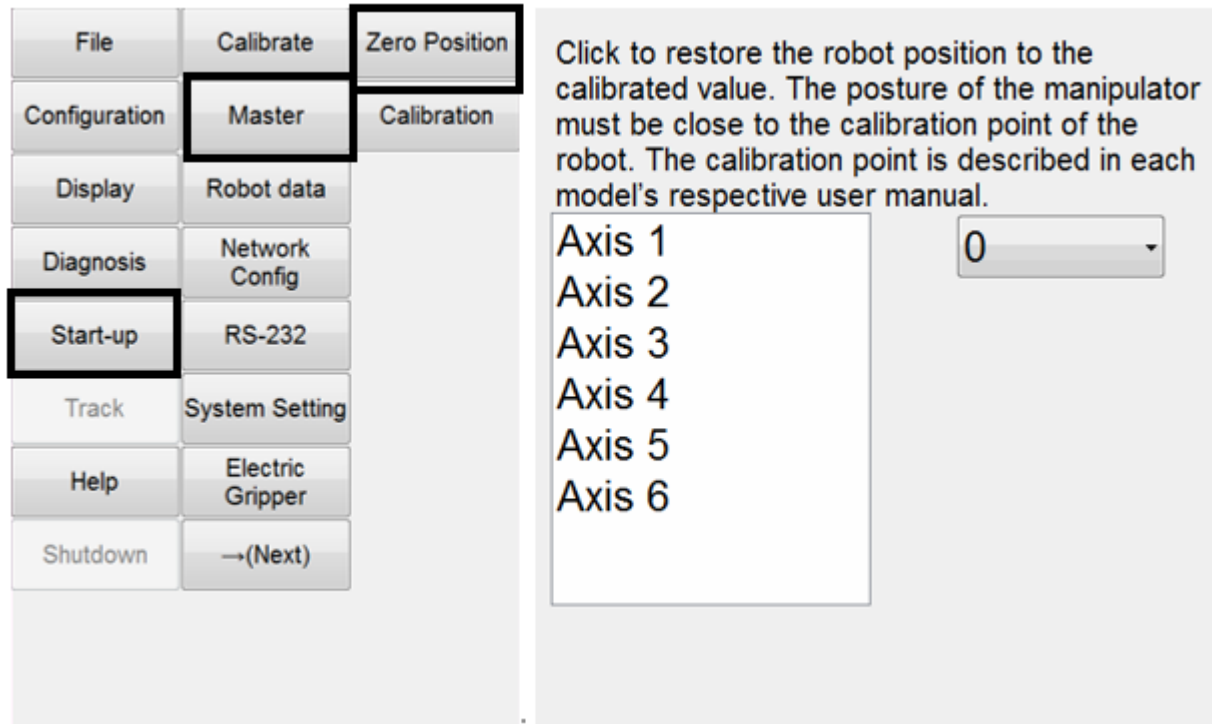

Figure 4-8 Clear encoder by HRSS
- Step4. Double click the axis to clear encoder. (As shown in Figure 4-8)